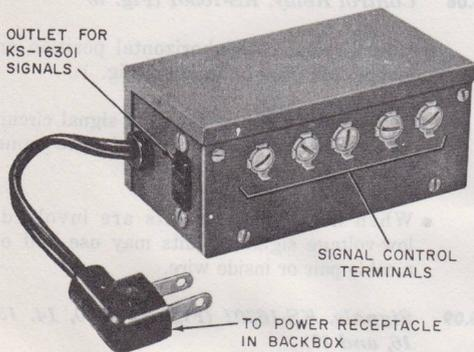

Fig. 6—KS-16301, List 15, List 16, List 17 Relay
3.08 Control Relay, KS-16301 (Fig. 6)